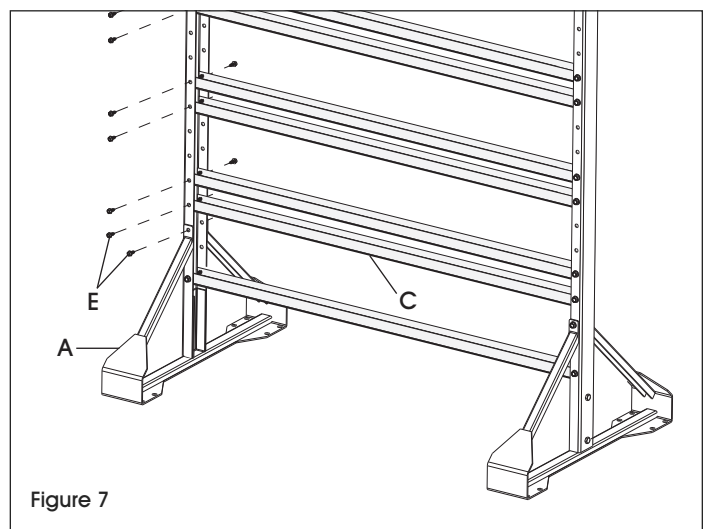

Figure 7
Attach crossbars (C) to the fourth and fifth holes up from the bottom using #14 sheet metal screws (E). Skip two holes; attach the remaining crossbars in pairs until all crossbars are used. The last crossbar at the top is a single crossbar. (See Figure 7)
**NOTE:** Attach each base assembly (A) to the third hole up using #14 sheet metal screws (E). (See Figure 7)